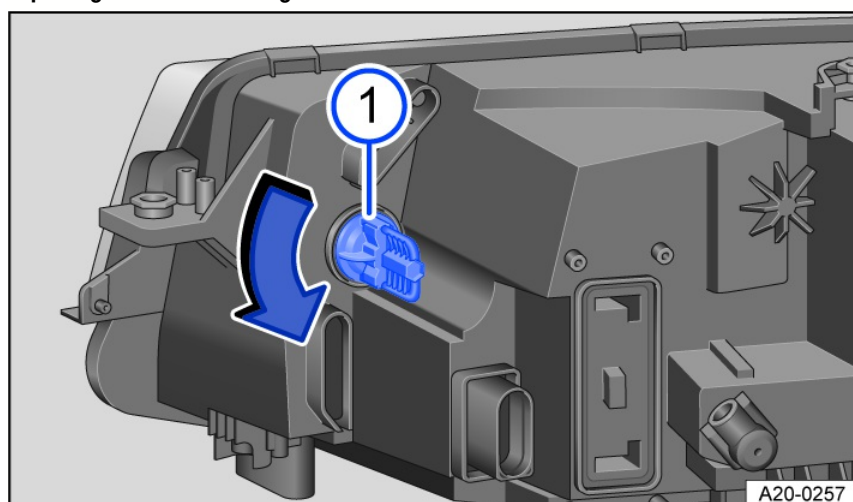

Fig. 135 In the right-side of the engine compartment: Rear side of the headlights.
1. To remove, turn the bulb holder in the direction of the arrow *fig. 135* .
3. Carefully insert the bulb holder into the headlight and turn in the opposite direction to the arrow *fig. 135* .